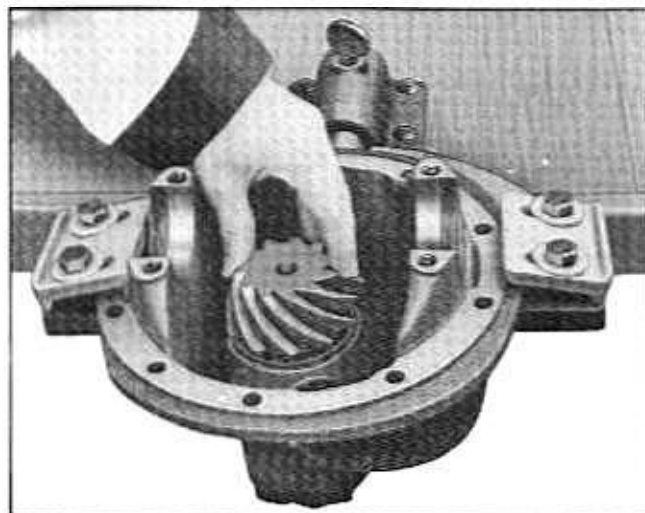

Fig. 4-30 Checking Rear Bearing For Roughness
12. Without removing rear bearing from pinion, wash inner race and roller assembly in cleaning fluid and examine for failure. Clean rear bearing outer race and examine visually for failure. Place drive pinion, with rear bearing inner race and roller assembly installed, in outer bearing race in carrier; rotate pinion while pressing on bearing (Fig. 4-30). If bearing turns smoothly and has no visual defects, do not remove inner race and roller assembly from pinion.